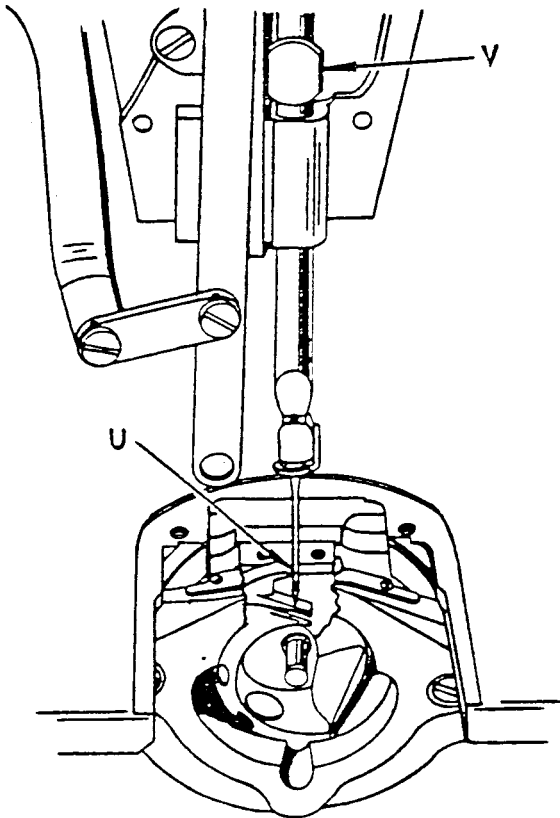

Fig. 19 Needle and Shuttle Correctly
When the shuttle is in this position, the top of the eye of the needle should be  $1/16$  inch below the point of the shuttle, as shown at (U), in Fig. 19.
If the eye of the needle is not the correct distance below the point of the shuttle, loosen the screw which fastens the needle bar in position in the needle bar connecting stud (V, Fig. 19).